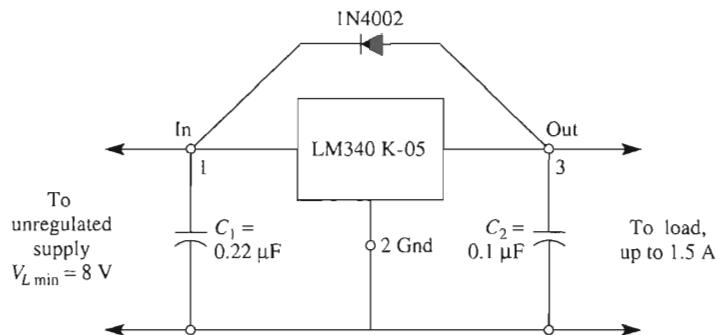

FIGURE 16-11 A TTL digital logic regulated power supply (5 V at 1 A.)
A $+5 \text{ V}$ digital power supply for TTL logic or certain microprocessors is shown in Fig. 16-11. The K package of the LM340-05 is a steel TO-3 case and should be heat sunked
$V_{L \min}$ for the unregulated FWB supply should allow 3 V of headroom and should be greater than $(3 + 5) \text{ V} = 8 \text{ V}$ (see Fig. 16-11). Choose a 12.6-V transformer ($1.8 \times 1 \text{ A}$) at a 2-A current rating. From Sections 16-2 and 16-3: (1) $V_{dc NL} = 12.6 \text{ V} \times 1.4 = 17.8 \text{ V}$. (2) Assume that $R_o = 6 \Omega$. If $I_{L FL} = 1 \text{ A}$, then $V_{dc FL} = 17.8 \text{ V} - 6 \Omega(1 \text{ A}) = 11.8 \text{ V}$. (3) Pick a 1000- μF filter capacitor to give a $\Delta V_o = 5 \text{ V}$. Thus, $V_{L \min}$ should be at least $11.8 \text{ V} - (5 \text{ V}/2) = 9.3 \text{ V}$, leaving some margin. Pick the capacitor WVDC $\geq 25 \text{ V}$ and diodes with a 25-V PIV rating. The diode current rating should exceed 1 A.